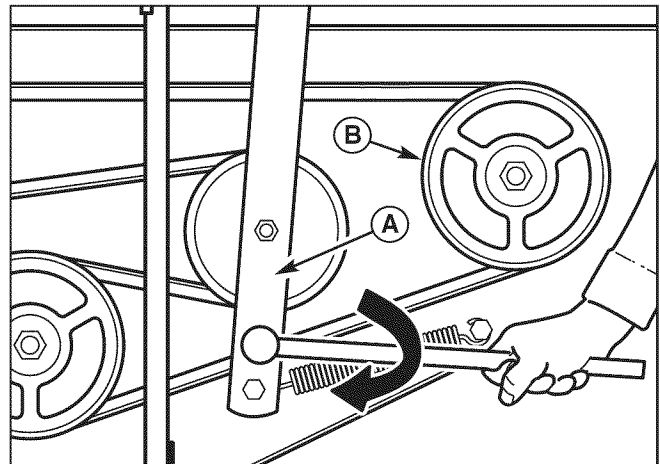

Figure 21. Spindle Drive Belt Removal
1. Using a 1/2" breaker bar, place the square end in the square hole located near the end of the idler arm (A, Figures 21). Carefully rotate the breaker bar clockwise, which will relieve the tension on the belt exerted from the idler arm.
2. Remove the belt from the trim side spindle pulley (B).